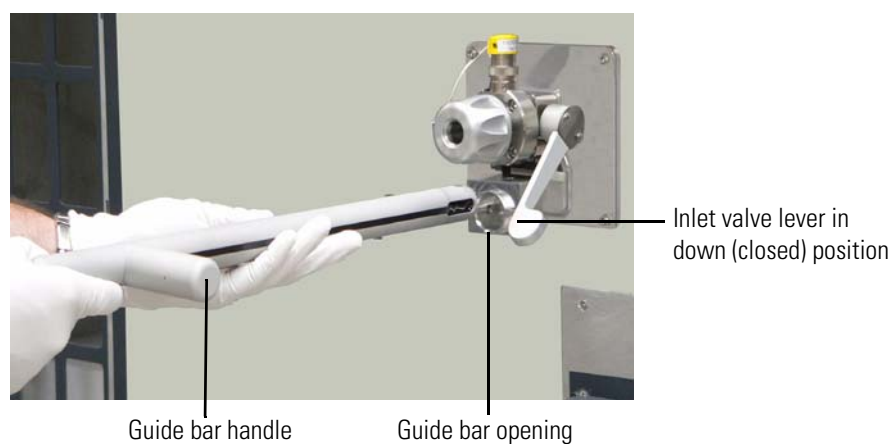

Figure 6-12. Guide bar being inserted into guide bar opening^a
3. Place the guide bar handle (item 13 in Figure 6-11) to the 3 o'clock position (Figure 6-12 on page 6-26).
4. Insert the guide bar (item 9 in Figure 6-11) into the guide bar opening in the back of the ETD Module (Figure 6-12).